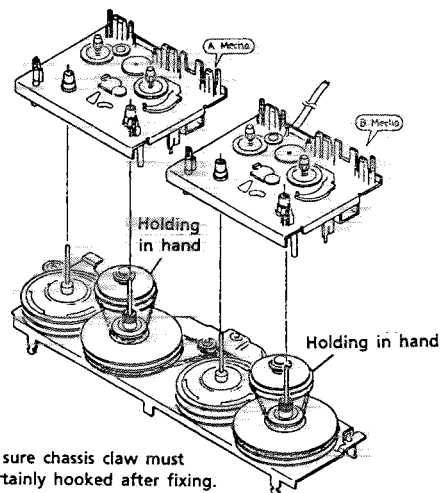

Fig. 3-14 Install the cassette mech. and bracket ass'y
2. Install the bracket ass'y on the cassette mech..(Fig. 3-14)